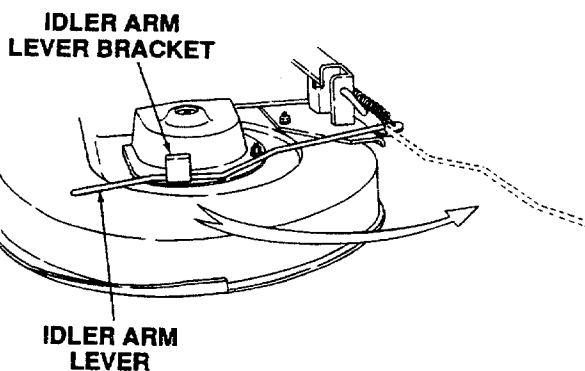

Figure 53
- Disengage the deck idler arm lever from its stop bracket and release the spring tension until the lever is at the outside of the deck. (Refer to Figure 53.)